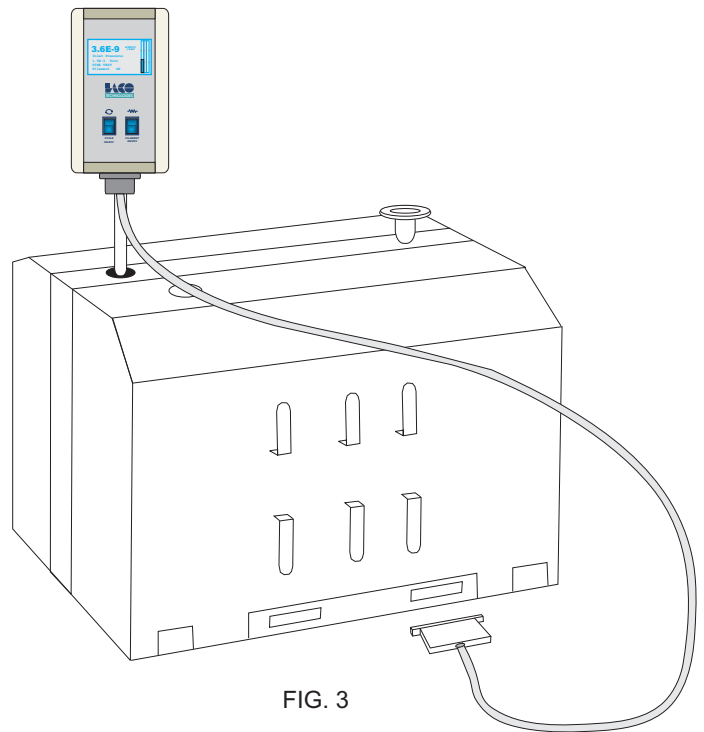

FIG. 3
- 2.- Insert the pedestal mounting tube in the leak detector (included). See fig.3. It might be necessary to tighten the mounting tube compression nut inside the detector enclosure if the tube is too loose.